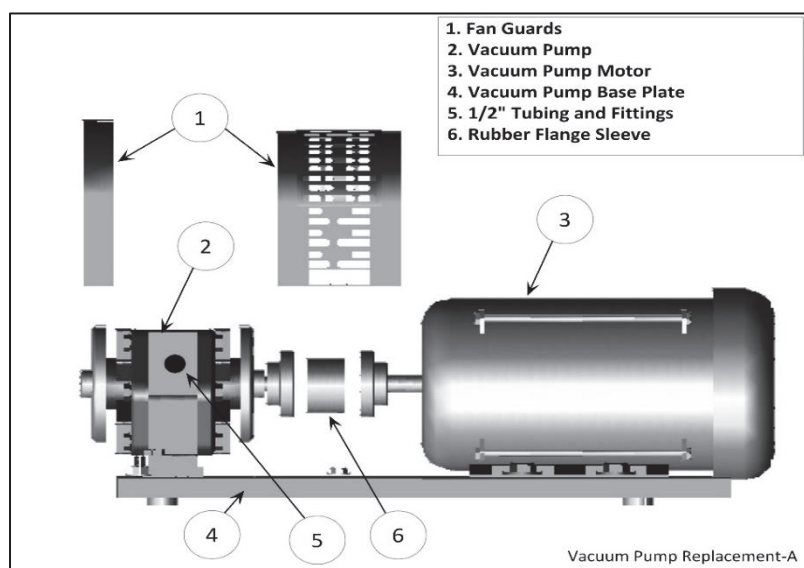

Figure 9-13: Vacuum Pump Assembly and Components
1. For the Vacuum Pump Assembly and Components, **See Figure 9-13.**
See Figure 9-13.